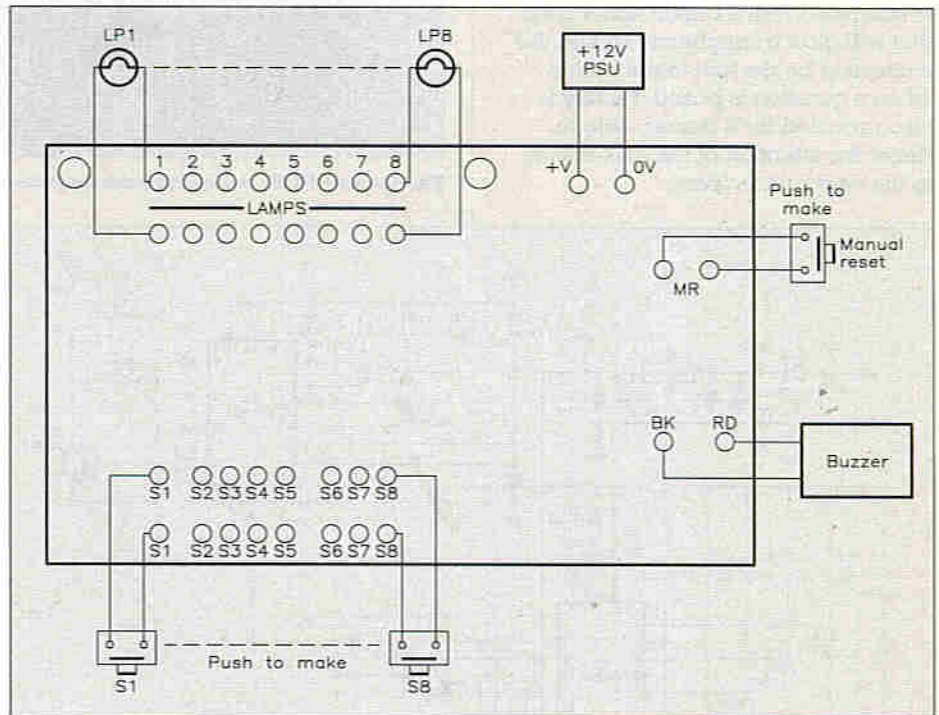

Figure 4. Wiring Diagram.
Referring to Figure 4, connect a 12V lamp to the LP1 pins, a buzzer to BK and RD pins and a 12V DC supply to the +V and 0V pins - we suggest that you use an unregulated supply from a mains adapter. Momentarily short out the S1 switch pins; the buzzer should operate for one second and the lamp should illuminate for three seconds. Repeat the test, but this time short out the master reset (MR) pins immediately after shorting out the S1 pins - the
constructor. To help you along, refer to the wiring diagram – Figure 4 – which shows how to interconnect the competitor's switches and lamps with The Quizzer PCB. You may decide to mount the PCB in a centralised case with the indicator lamps fixed within sight of the Quiz-Master. Competitor's switches would then be connected into the main case, and the Quiz-Master would be made aware of a response by the buzzer sounding and the appropriate lamp lighting. Competitor's switches could then be mounted in a smart hand-held case. This scheme would require twin cable between switches and the main unit. These could be terminated at either end by a two-pin DIN plug and socket, lending an air of professionalism to the project.